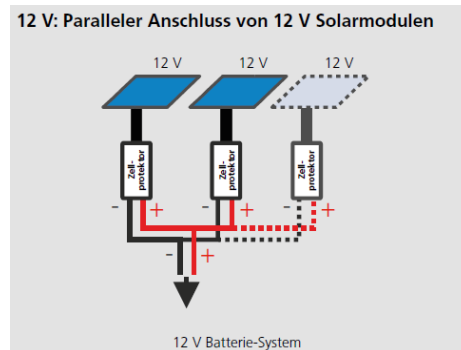

figure 2
6. If you have two panels in a 12 Volt-System in parallel, then connect them like in figure 2.